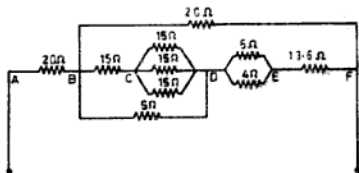

Fig. NE 3.25
- 3.25 Find the equivalent resistance of the circuit shown in Fig. NE 3.25.